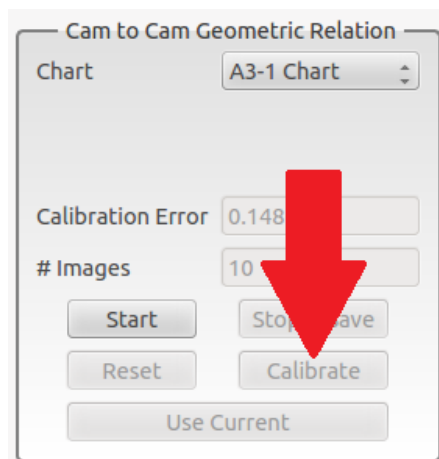

Figure 24
- Press *Calibrate* (Figure 24), and an error value will be calculated and displayed. Check that the value is below 0.1.